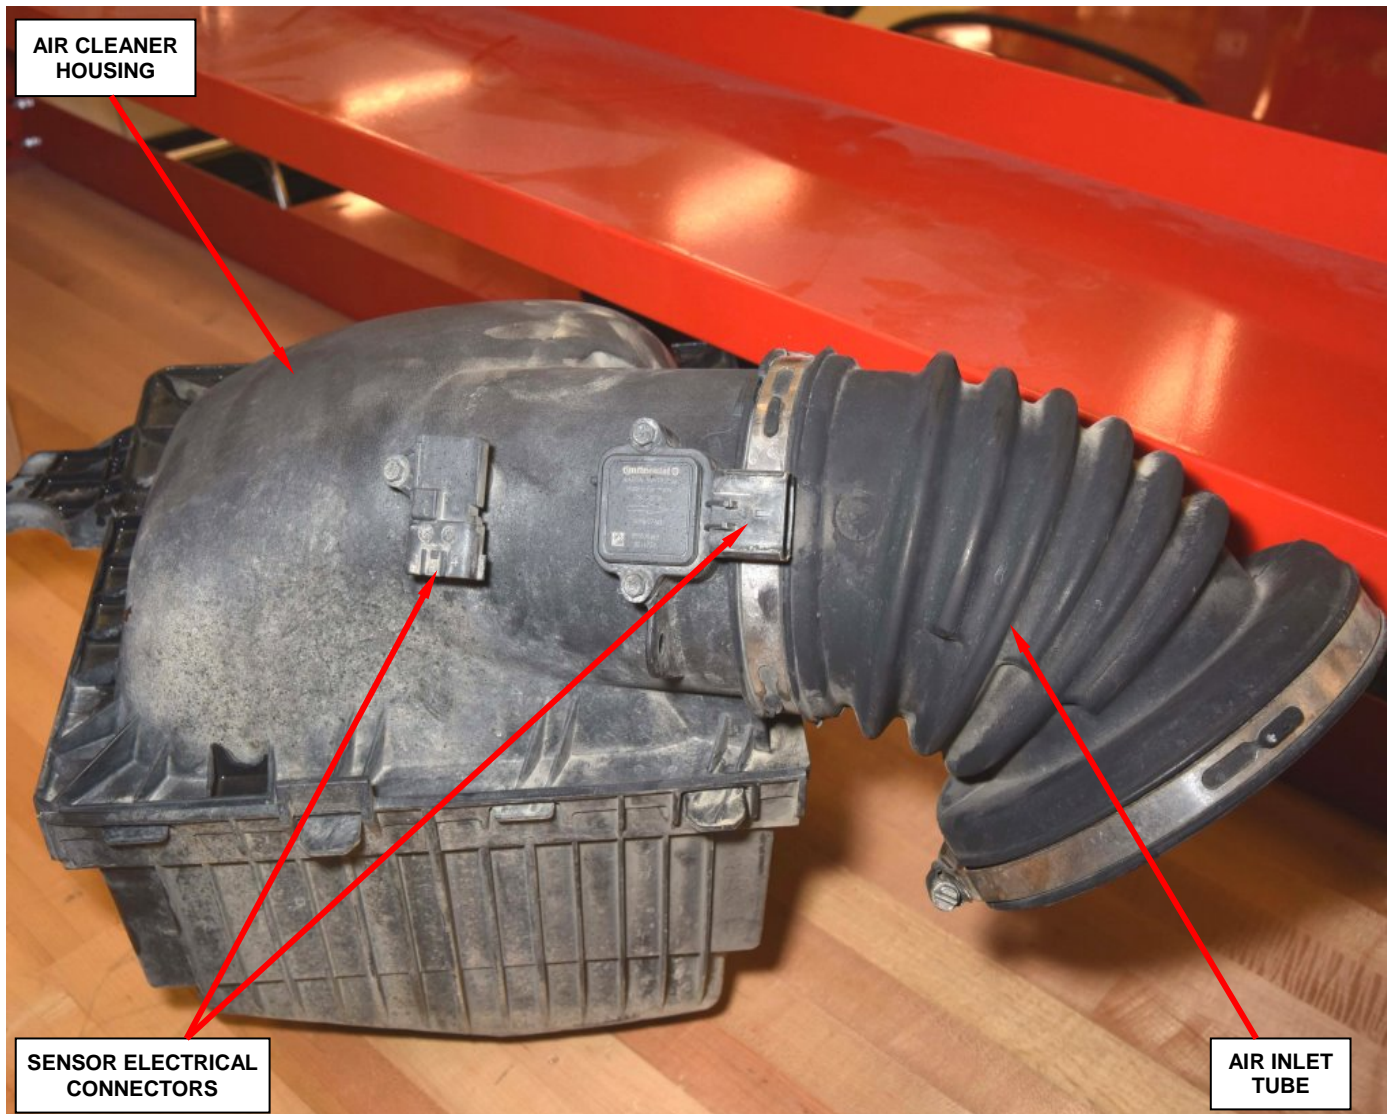

Figure 3 – Air Cleaner Housing and Sensors
- b. Disconnect the electrical connectors for the sensors on the air cleaner housing (Figure 3).
- c. Remove and save the air cleaner housing and the air inlet tube (Figure 3).
17. Install both negative battery cables (Figure 3).